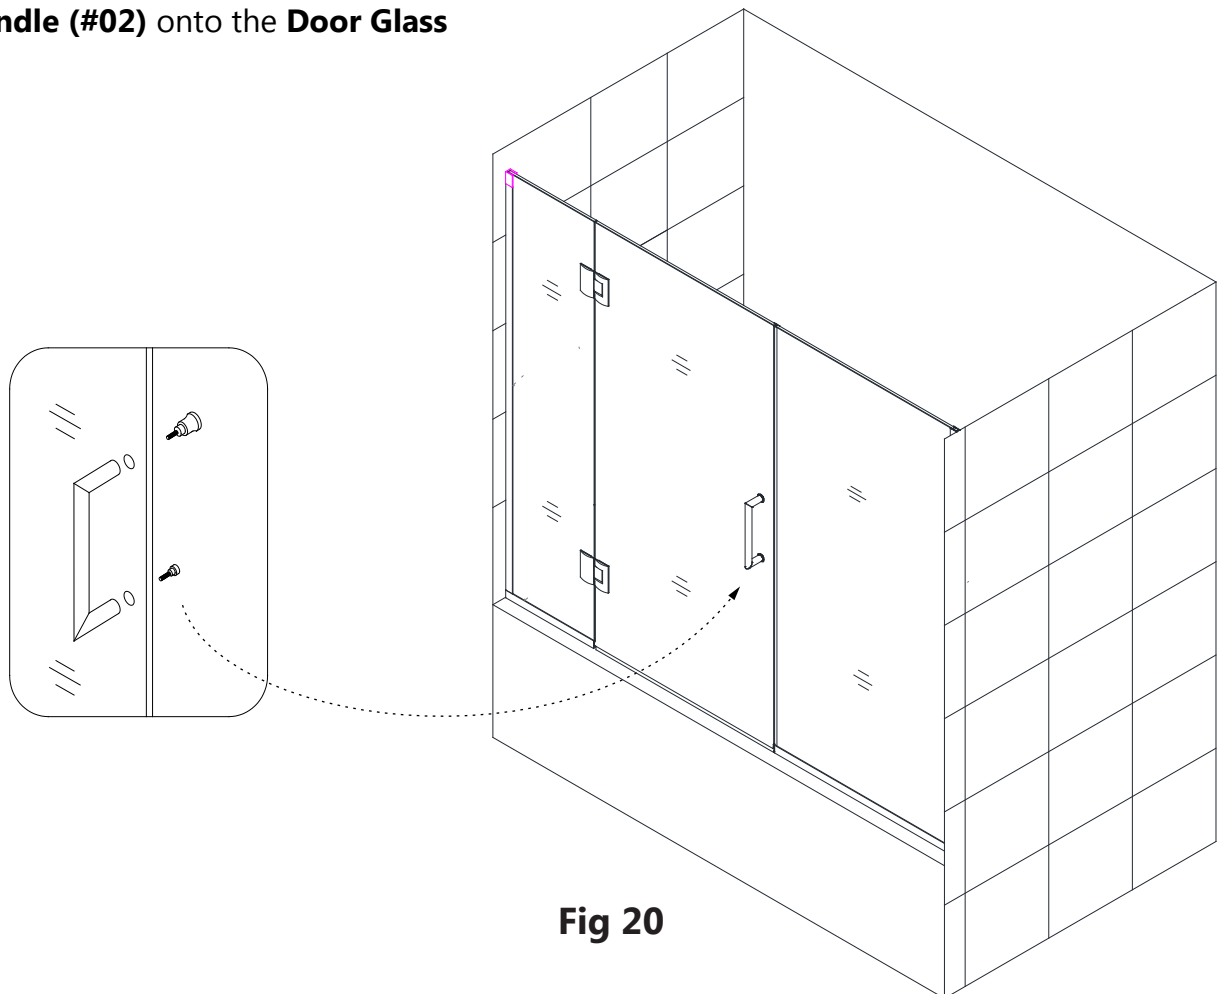

Fig 20
19. Mount the **Handle (#02)** onto the **Door Glass (#01)**. (**Fig 20**)